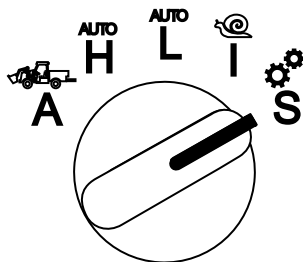

Figure 19
1. Rotate the operation-mode selector to the **S** position (Figure 19).